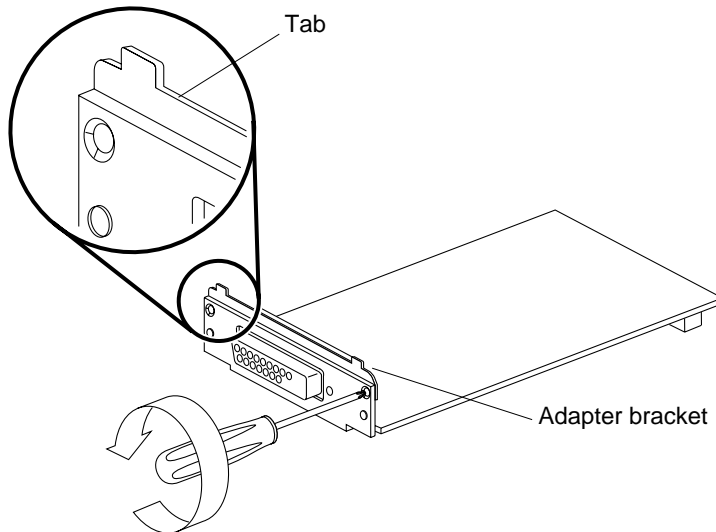

FIGURE 11-16 Removing the SBus Card Adapter Bracket
3. **If the SBus card has tabs on the back plate, remove the two small Phillips screws that attach the adapter bracket to the back plate and remove the adapter bracket (FIGURE 11-16).**